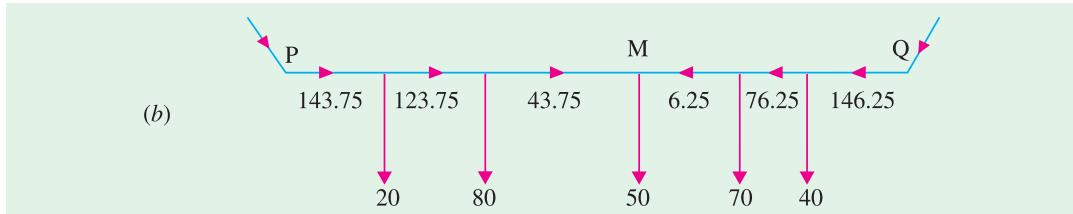

Fig. 40.25
**Solution.** As shown in Fig. 40.25 (a), let  $x$  be the current supplied from end  $P$ . The other currents in the various sections of the distributor are as shown in the figure.
The actual distribution is shown in Fig. 40.25 (b) from where it is seen that point  $M$  has the minimum potential.